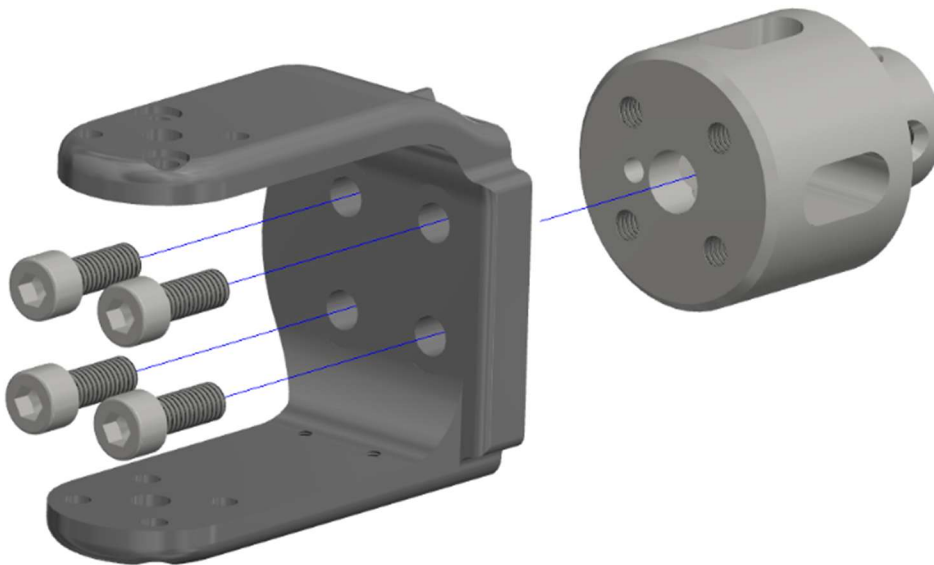

Figure 10-11. Separate the Knee Clevis (474-5517-1,2) from the Upper Tibia Load Cell (SA572-S103)
10.2.7 Separate the Knee Clevis (474-5517-1,2) from the Upper Tibia Load Cell (SA572-S103) by removing four M6 X 1 X 16 LG. SHCS (Figure 10-11).